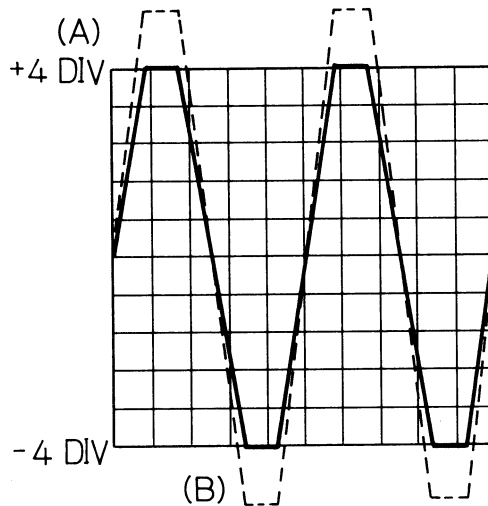

Fig. 4-6
- c. Write in a full-scale waveform, then adjust the level (B) in Fig. 4-6 to the -4 div position by means of RV1553 (CH1) and RV1574 (CH2) on PEF-599 unit.
- ②① Adjustment of full-scale GAIN
- a. Set the controls and switches as instructed in ②① .
- b. Adjust the level (A) in Fig. 4-6 to the +4 div position by means of RV1556 (CH1) and RV1573 (CH2) on PEF 599 unit . (within ± 0.2 div.)
- ②② GAIN adjustment of A/D converter
- a. Set the controls and switches other than DISPLAY as instructed in ②① .